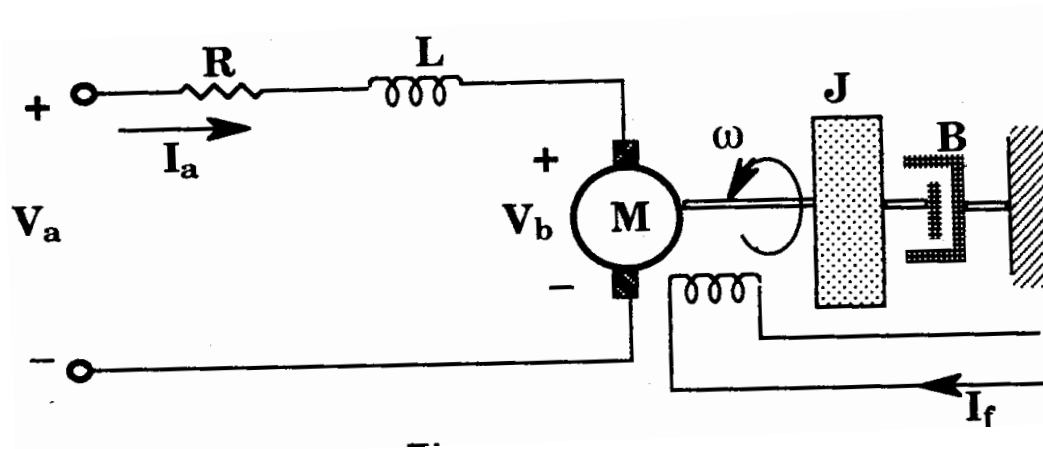
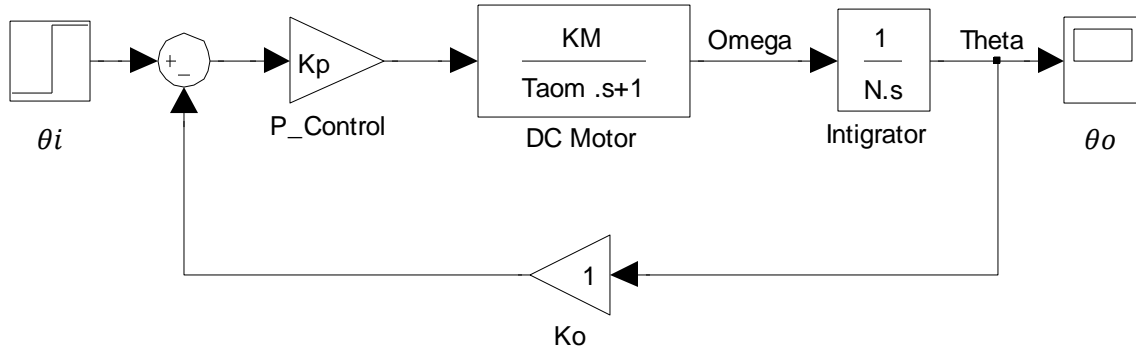

Figure 2-1
Figure 6-1
The schematic circuit of an armature-controlled DC motor is shown in Figure 2-1.
Referring to Figure 2-1 and Equation (2-7), we consider the DC motor with unit feedback system. The block diagram is shown in Figure 6-1.
3. Simulate system using block diagram of Figure 6-1.
2. Refer to block diagram as in Figure 6-1, write a Matlab m script to get the unit feedback system transfer function (Hint: first, find transfer function of open loop first order motor system, second, using 'feedback' command to get closed loop unit feedback system transfer function, then, using 'bode' command to draw a Bode Diagram using system parameter as in experiment result), time response #3 of $\tau_m = 25$ ms and $K_{motor} = 36$, let $K_p = 0.4$.